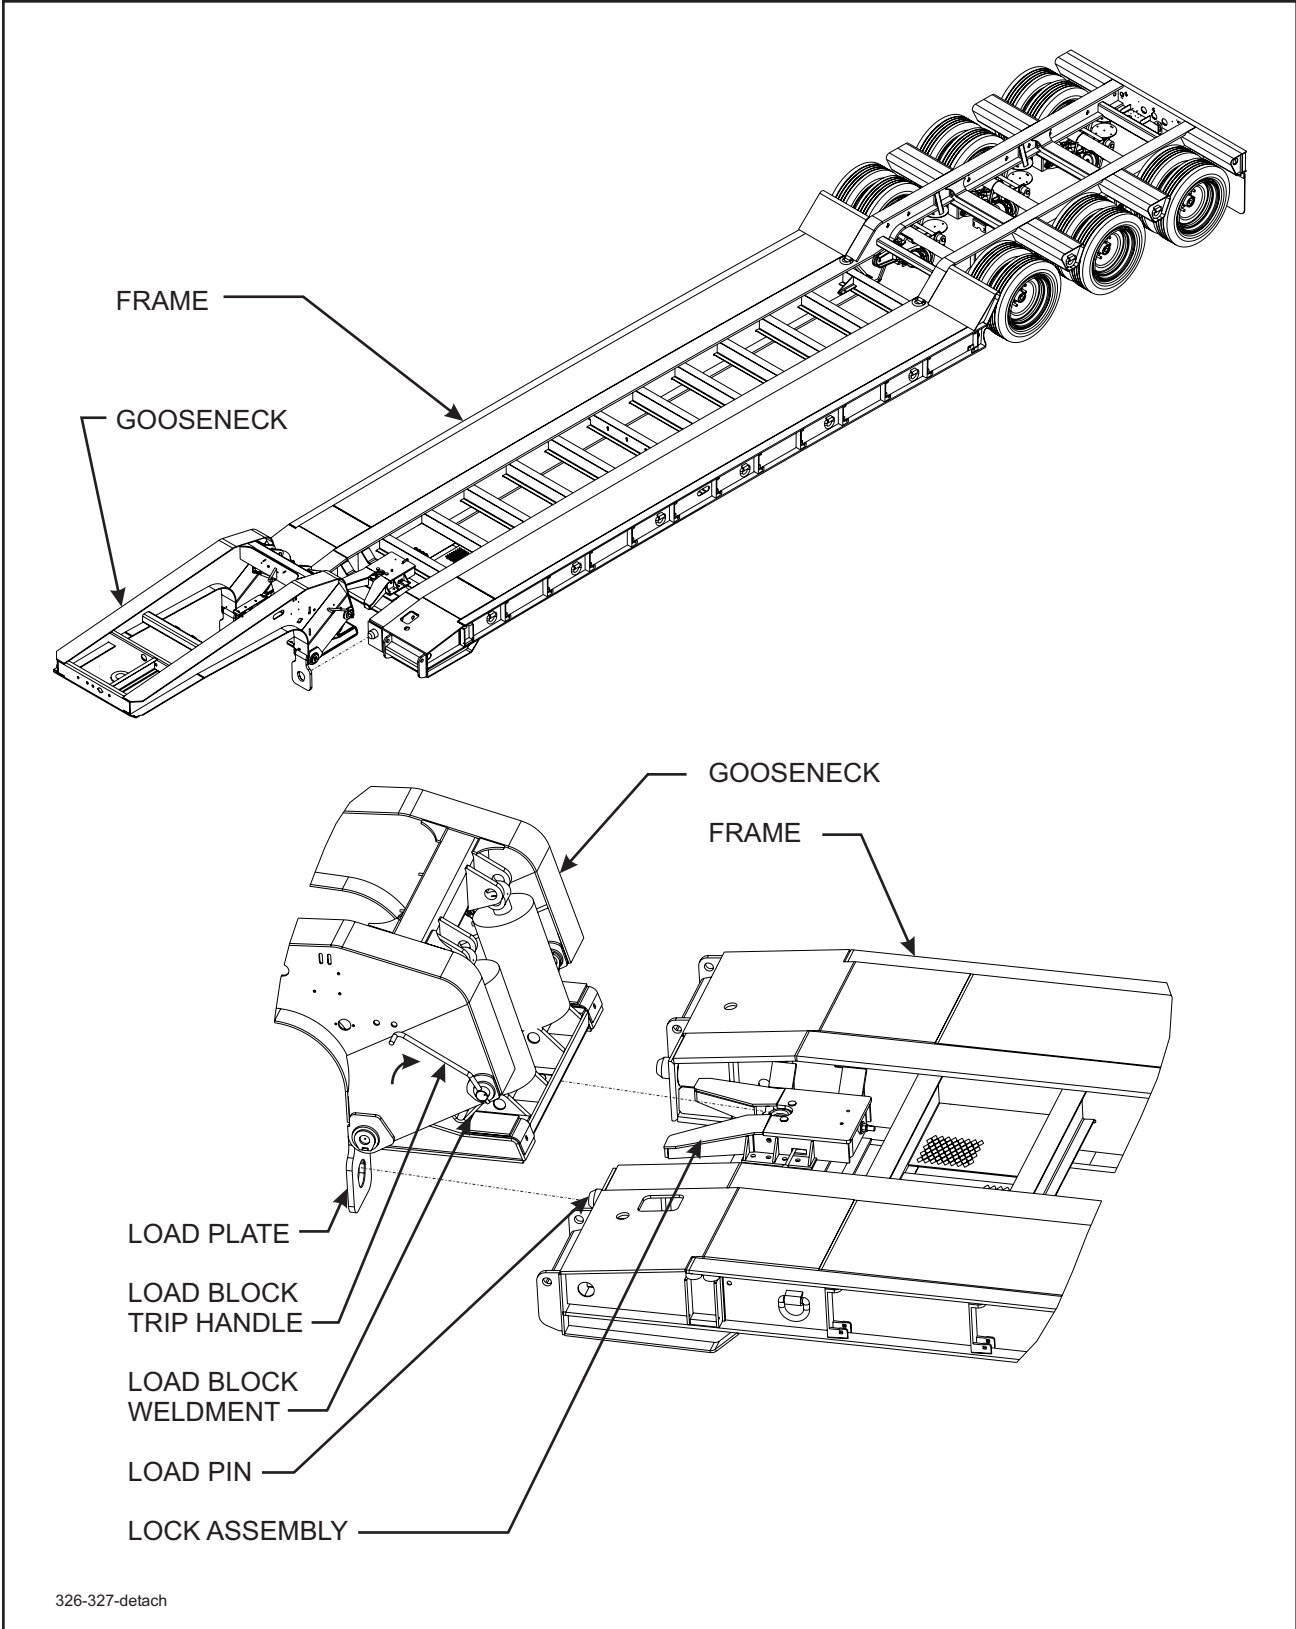

Figure 3-9 Gooseneck Attachment to Frame
**3-21.2** Park the tractor/semitrailer in a straight line on level even surface. Set the tractor brakes and release the semitrailer brakes (**See Figure 3-9**). Chock trailer wheels.